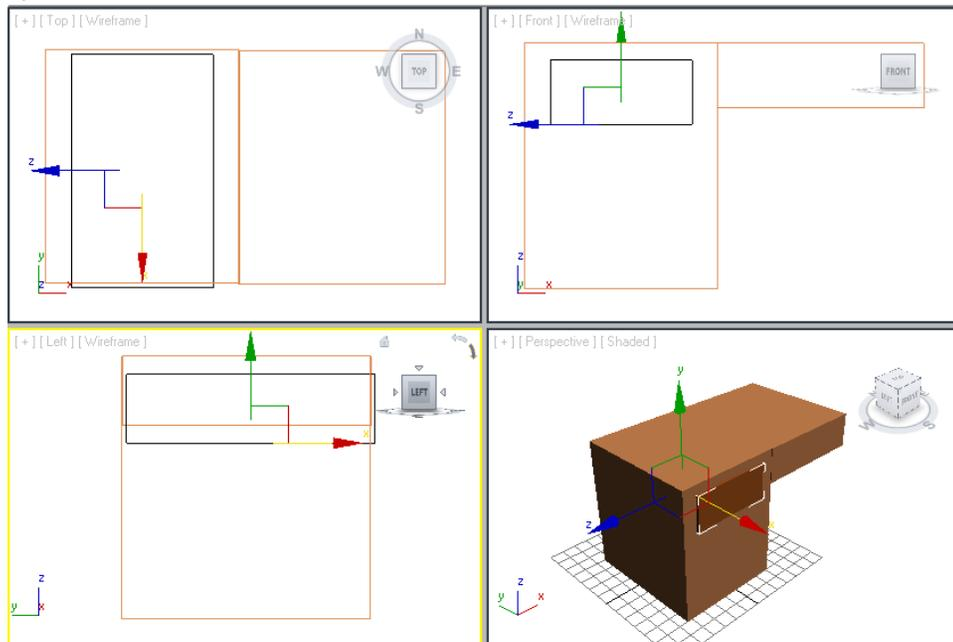

Figure 2-43 Alignment of *drawer001* with left box
4. Align *drawer001* with *left box* in viewports using the **Select and Move** tool, as shown in Figure 2-43.